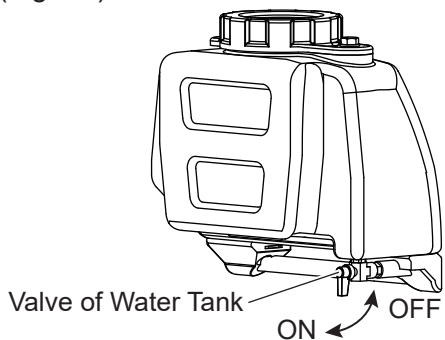

Fig. 11
2. Check the valve of water tank ON and OFF. (Fig. 11)